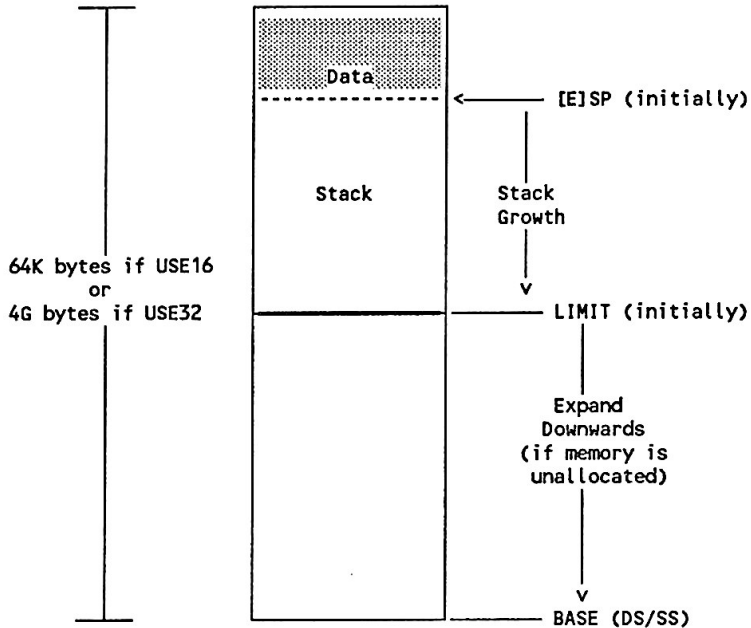

Figure 3-11 Data/Stack Combined Segment Organization
- For DSC (data/stack combined) segments, **ESP** points to the first byte above the stack portion of the combined segment. Figure 3-11 shows the organization of a DSC. See the **SEGMENT** definition in this chapter for more about DSC segments.